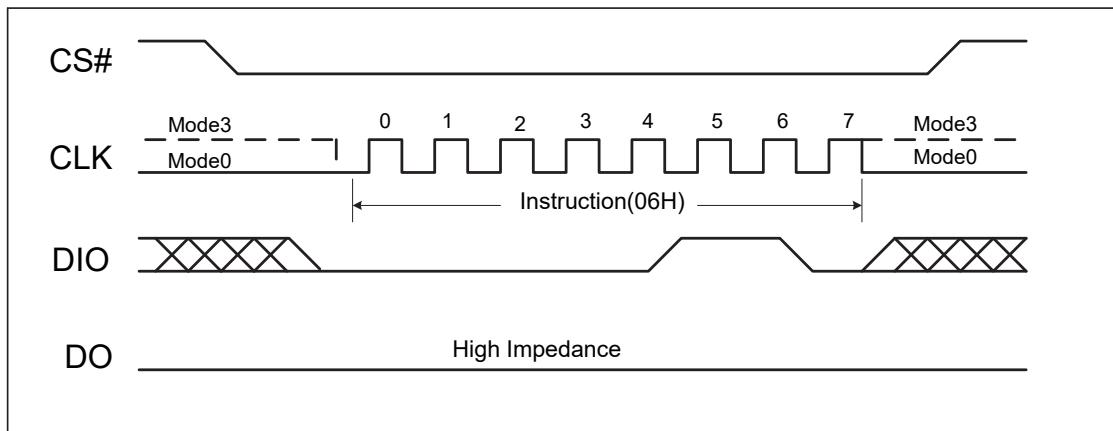

Figure 7, Write Enable Instruction Sequence Diagram
Instructions vary in length from a single byte to several bytes and may be followed by address bytes, data bytes, dummy bytes (don't care), and in some cases, a combination. Instructions are completed with the rising edge of edge CS#. Clock relative timing diagrams for each instruction are included in figures 7 through 33. All read instructions can be completed after any clocked bit. However, all instructions that Write, Program or Erase must complete on a byte boundary (CS driven high after a full 8-bits have been clocked) otherwise the instruction will be terminated. This feature further protects the device from inadvertent writes. Additionally, while the memory is being programmed or erased, or when the Status Register is being written, all instructions except for Read Status Register will be ignored until the program or erase cycle has completed.
The Write Enable instruction (Figure 7) sets the Write Enable Latch (WEL) bit in the Status Register to a 1. The WEL bit must be set prior to every Page Program, Sector Erase, Block Erase, Chip Erase and Write Status Register instruction. The Write Enable instruction is entered by driving CS# low, shifting the instruction code “06h” into the Data Input (DI) pin on the rising edge of CLK, and then driving CS# high.